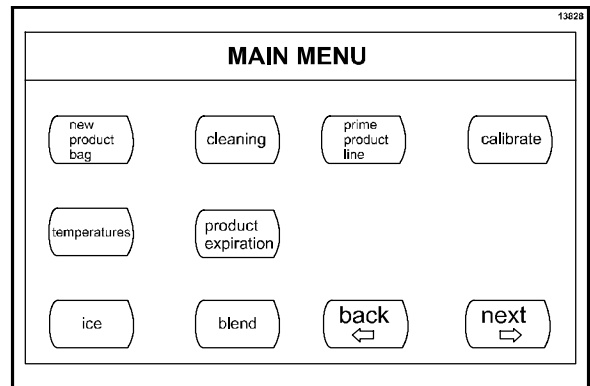

Figure 41
2. Press the CLEANING key. (See Figure 41.)